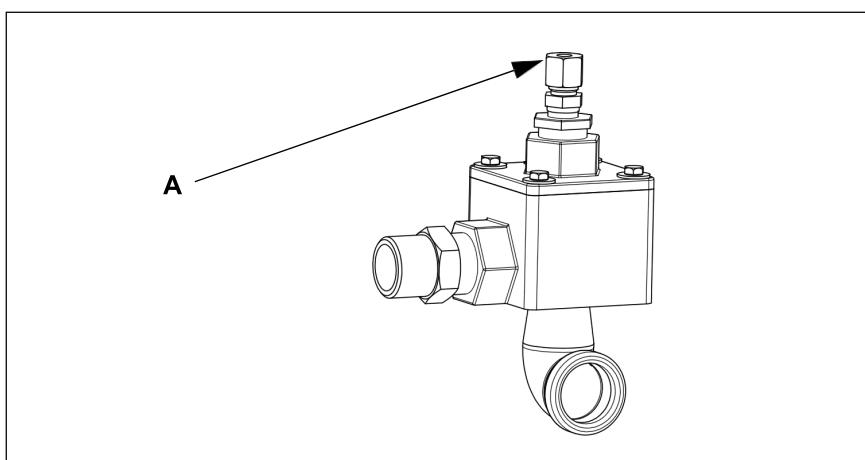

Fig. 6:
- Screw the control line into the control port (A, Fig. 6) of the exhaust valve.